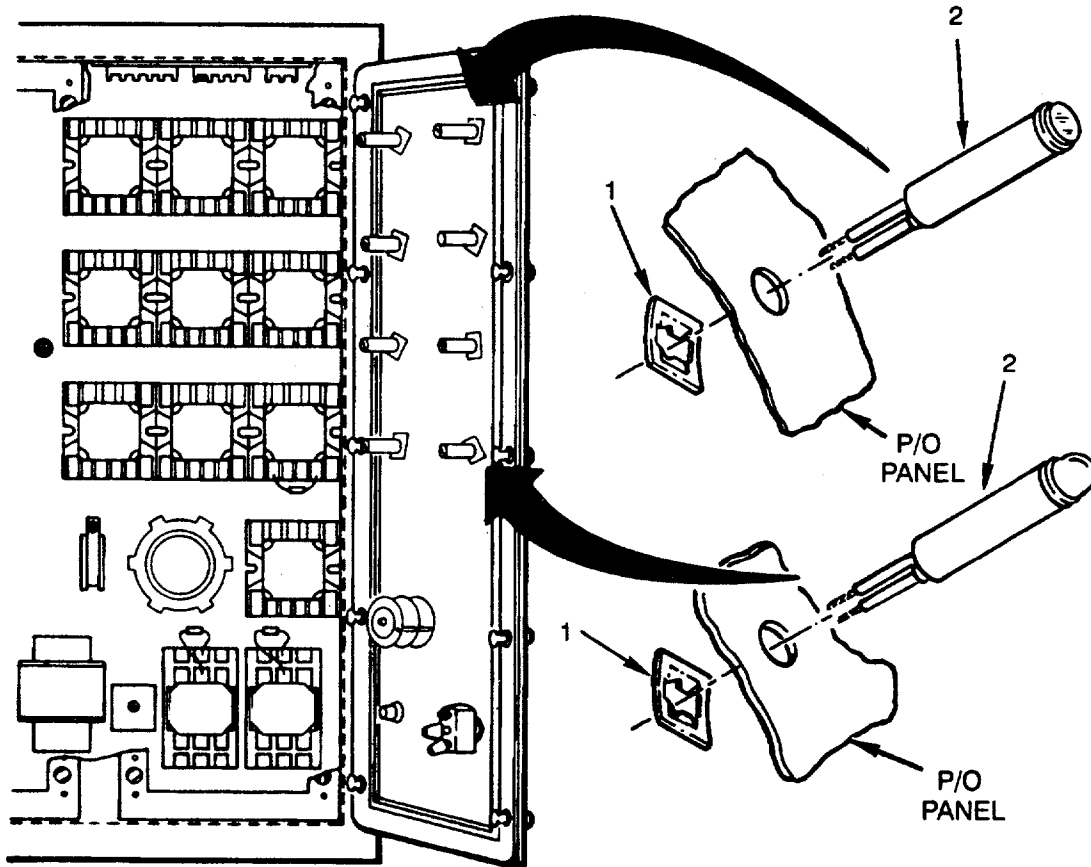

Figure 4-51. Indicator Lights ( DS1-DS7, DS9)
1. Check that light lenses are not cracked or broken. Replace light, if damaged (see Figure 4-51).